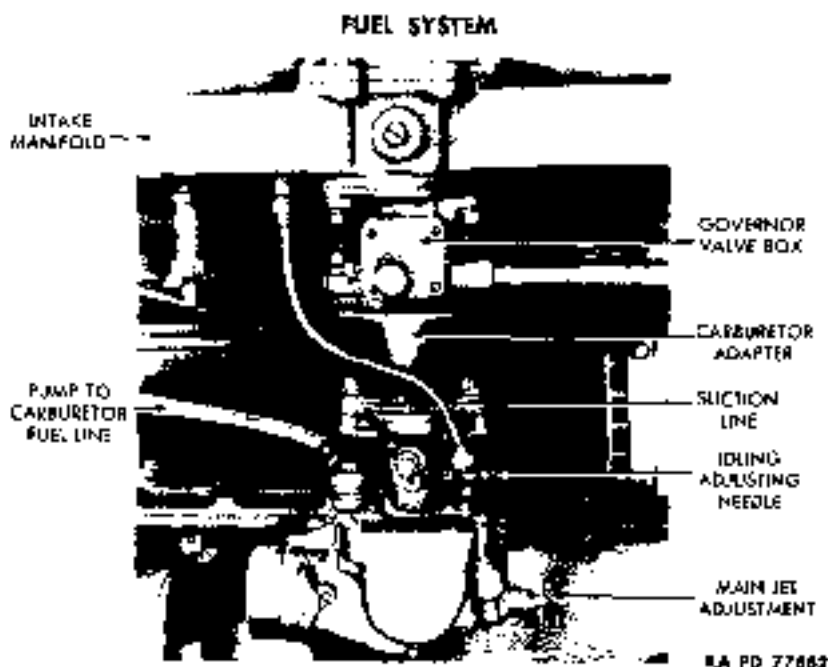
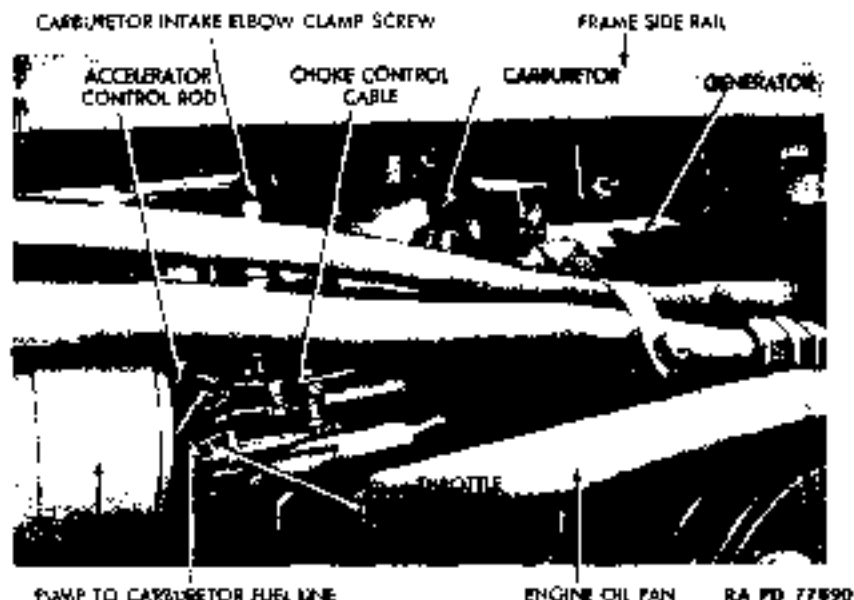

Figure 29 - Carburetor
Figure 30 - Carburetor Connections
(1) **DESCRIPTION** (fig. 29). The carburetor is located on right-hand side of engine between engine and frame. It can be reached from under the truck or through opening obtained by removing splash shield from under right front fender. It is the updraft, single-venturi type. Its function is to supply the proper mixture of fuel and air to the combustion chambers through the intake manifold.
(3) **ADJUST IDLING MIXTURE** (fig. 29). Adjust throttle stop screw (step (2) above). Leave splash shield off and engine running. Turn in idling adjusting needle near top of carburetor until engine slows. Back out needle until engine attains maximum speed for throttle setting. Set throttle stop screw so that engine idles at 350 revolutions per minute. Stop engine, and install splash shield unless further carburetor adjustment is to be made.
(4) **ADJUST INTERMEDIATE AND HIGH SPEED MIXTURES** (fig. 29). Start engine, and set throttle so that tachometer registers 550 revolutions per minute. Remove splash shield from under right-hand front fender. Wait until intake manifold is at least warm to the hand, then turn main jet adjustment on under side of carburetor in (clockwise) until engine slows down. Open adjustment (turn counterclockwise) until engine slows down. Turn adjustment to a position halfway between these two extremes. Stop engine, and install splash shield.
(1) **DISCONNECT CONTROLS FROM CARBURETOR** (fig. 30). Remove splash shield from under right-hand front fender. Disconnect choke control cable, throttle control cable, and accelerator control rod from carburetor.
(2) **DISCONNECT AIR CLEANER FROM CARBURETOR** (fig. 30). From under truck, loosen carburetor intake elbow clamp screw nut. Disengage elbow from carburetor.
(3) **DISCONNECT LINES FROM CARBURETOR** (fig. 30). Working through splash shield opening, disconnect pump to carburetor fuel line from its fitting on carburetor. Disconnect carburetor to manifold suction line (fig. 29) from its fitting on carburetor.
(4) **DETACH CARBURETOR** (fig. 29). Working through splash shield opening, remove the two cap screws and lock washers which attach carburetor to carburetor adapter. Lift carburetor and gasket from adapter.
(1) **ATTACH CARBURETOR** (fig. 29). Place gasket and carburetor in position on carburetor adapter, and install the two lock washers and cap screws which hold carburetor to adapter.
(2) **CONNECT LINES TO CARBURETOR** (figs. 29 and 30). Connect
(3) **CONNECT CONTROLS TO CARBURETOR** (fig. 30). Push in choke control on dash, open carburetor air shutter or choke valve, and attach choke control cable to air shutter lever. Attach throttle control cable to carburetor throttle lever. Be sure throttle is closed when throttle control on dash is in. Connect accelerator control rod to throttle lever.
(4) **CONNECT AIR CLEANER** (fig. 30). Position carburetor intake elbow on rear of carburetor, and tighten intake elbow clamp screw nut.